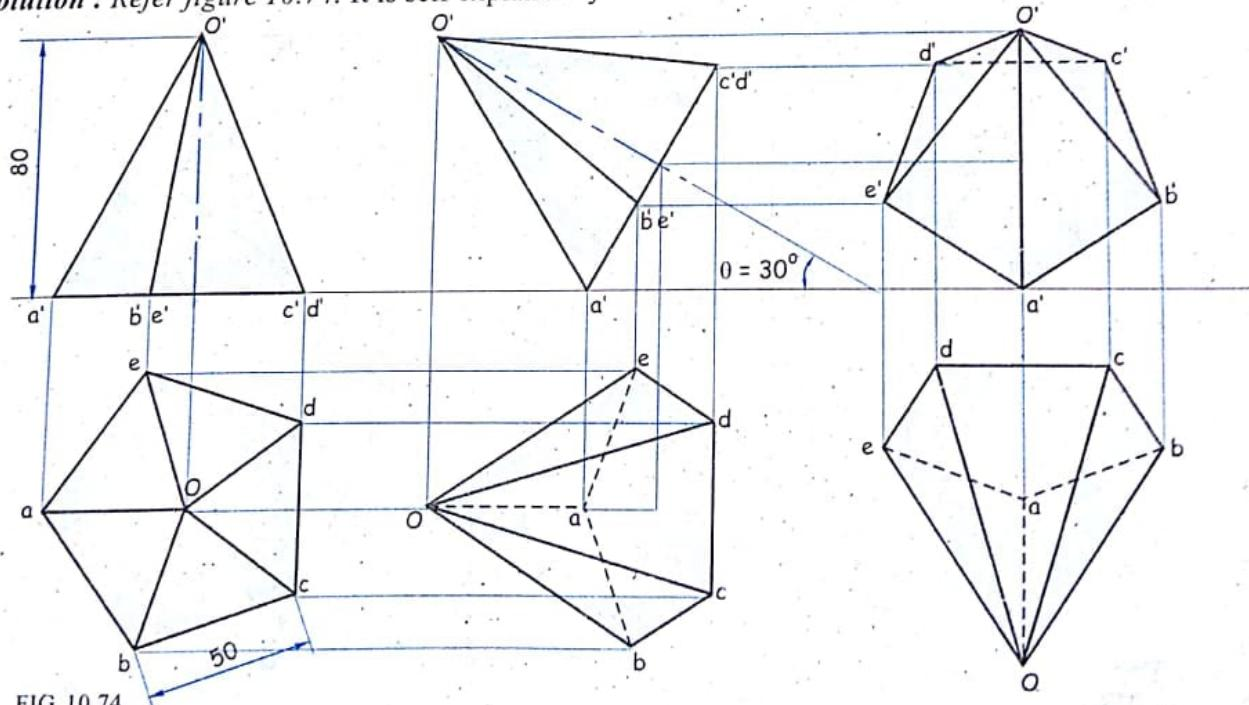

FIG. 10.74
**Solution :** Refer figure 10.74. It is self explanatory.